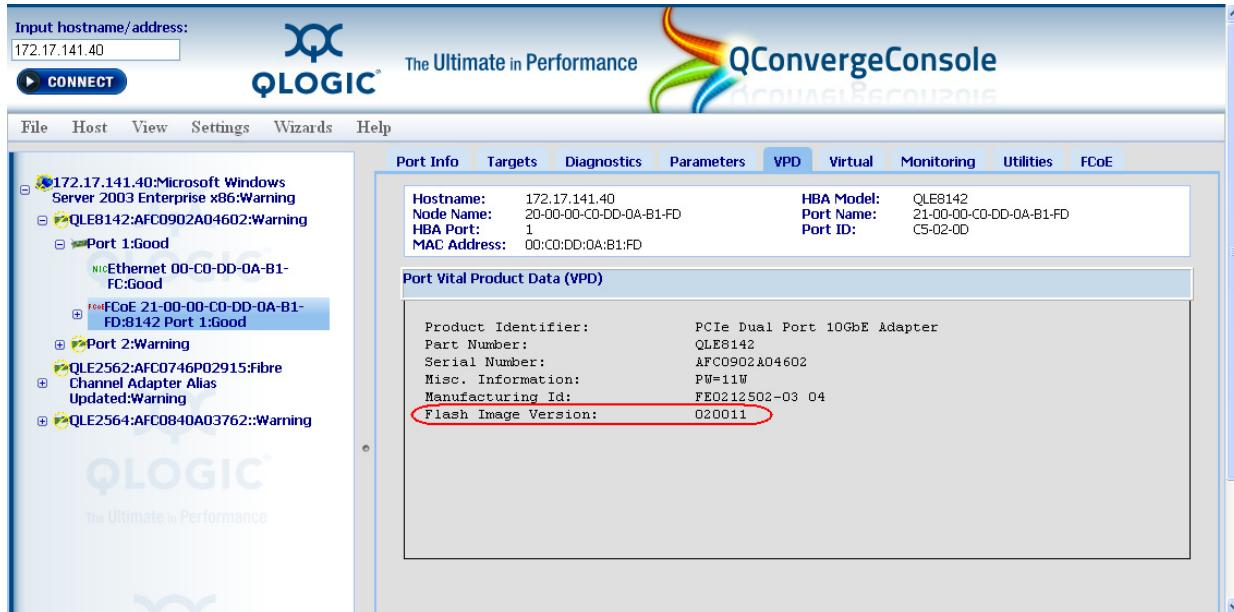

Figure 3-48. Displaying the Multi-boot Image Version
3. Expand the physical Port 1, select the FCoE port, and then select the **VPD** tab (Figure 3-48) in the right pane. The Flash Image Version appears at the bottom of the Port Vital Product Data (VPD) list.